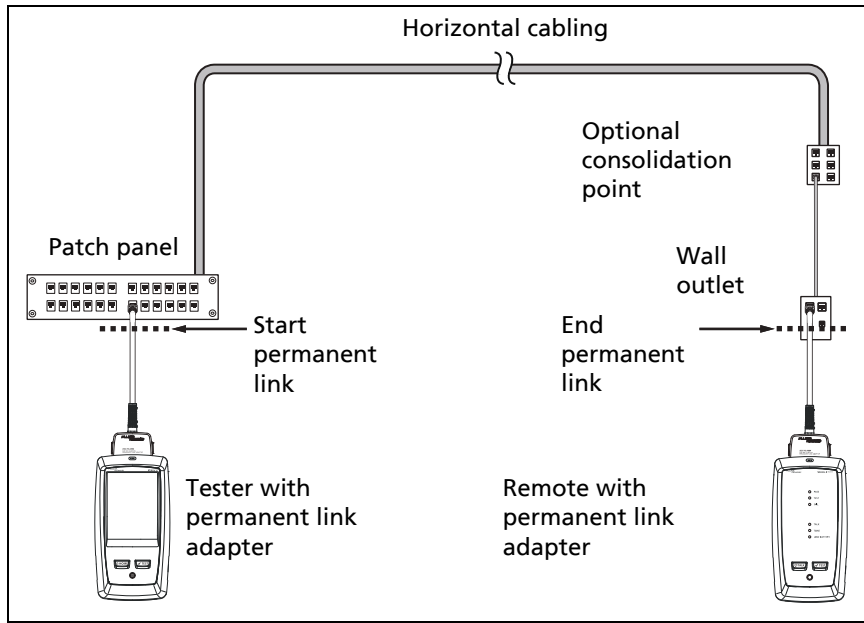

Figure 17. Permanent Link Connections for Links Up to Class F_A
- 3 Connect the testers to the link as shown in Figure 17, 18, 19, 20, or 21.